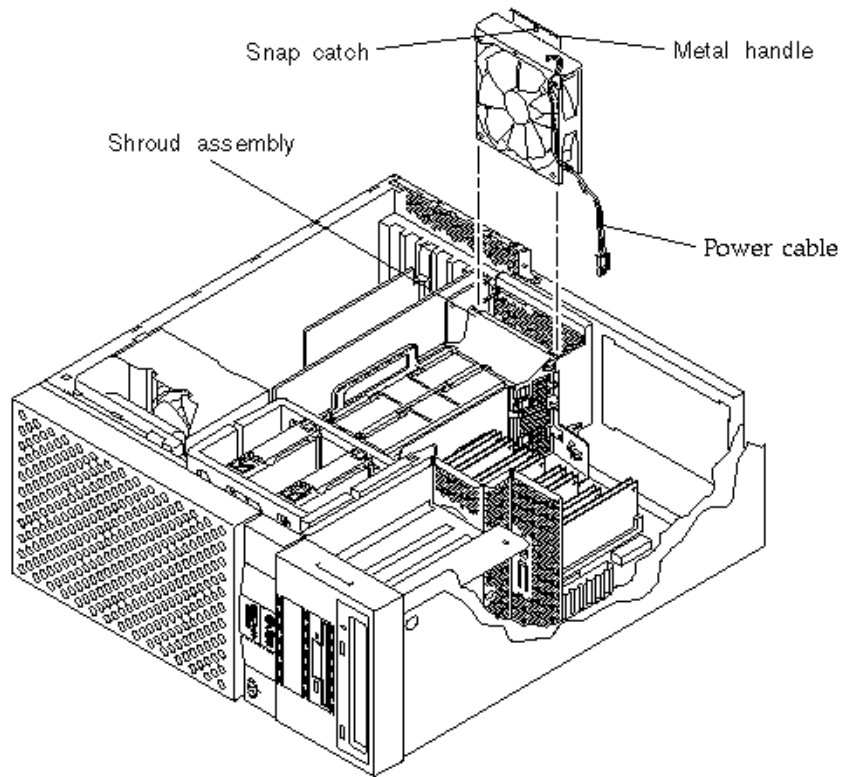

Figure 8-10 Removing and Replacing the CPU Fan Assembly
4. Disconnect the CPU fan as follows (Figure 8-10):
1. Connect the CPU fan assembly as follows (Figure 8-10):